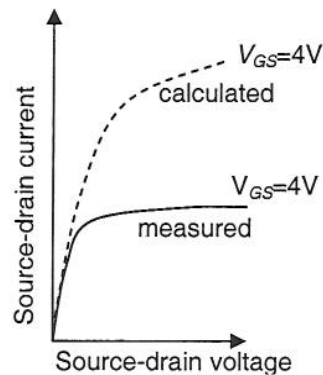

Figure 1.1: the calculated (dashed line) and measured (full line) characteristics of an enhancement mode MOSFET.
- d) Give the reason for the discrepancy between the theoretical (dashed line) and measured (full line) drain current characteristics of a MOSFET given in fig.1.1. You can assume no short channel effects occur. The theoretical curve is calculated using the I_{DS} equation in the formulae list. [2]